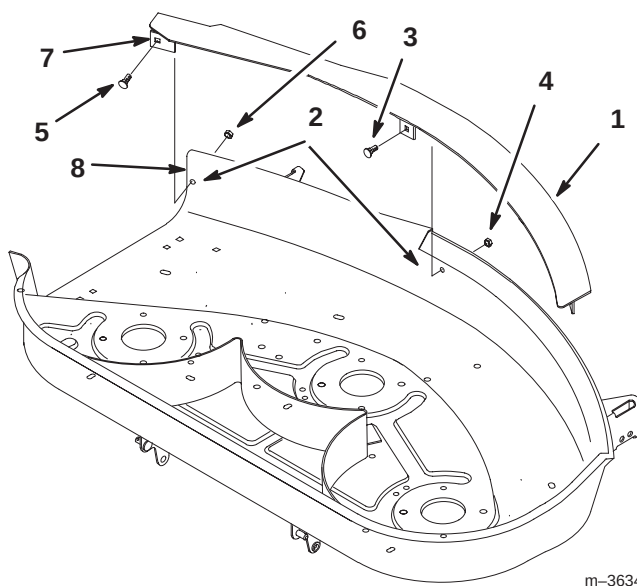

Figure 4
1. Place the front grass baffle inside the front edge of the mower. The baffle plate should rest on the front edge of the mower. The right tab on the baffle should extend 1/8 inch outside of the right edge of the mower (Fig. 4). Use a clamp to hold the baffle in place.
2. Mark where the holes in the baffle are and remove the clamp and grass baffle. Drill four holes (11/32 inch) (Fig. 4).
3. Install the grass baffle inside front edge of the mower using three carriage bolts (5/16 x 7/8 inch) and three locknuts (5/16 inch) along the front. At the right side use the carriage bolt (5/16 x 1/2 inch) and thin locknut (5/16 inch) as shown in Figure 4.